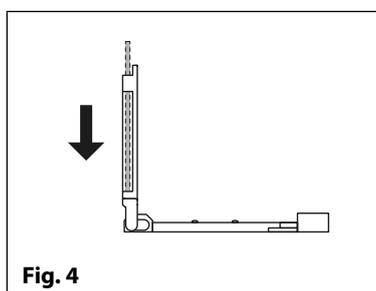
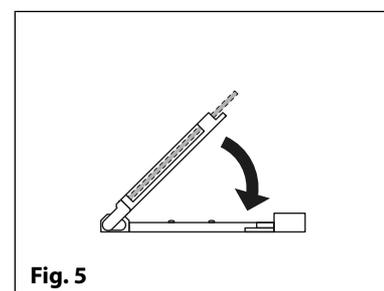

Fig. 4
Fig. 5
3. Place the SIM card into the holder (it will only fit one way, see **Fig.4**) and fold the holder back down, see **Fig.5**.